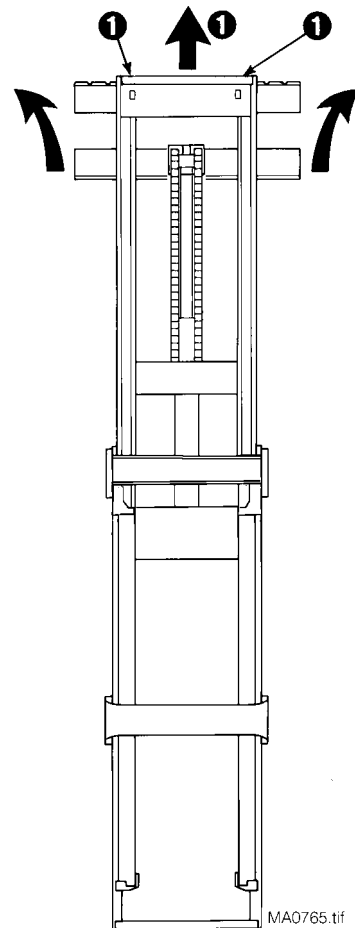

Figure 40. Extending Upright
1. Extend the mast to full height. See Figure 40.